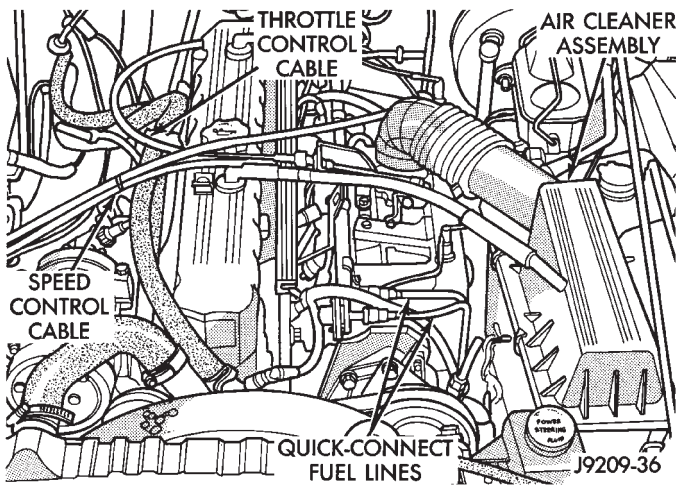

Fig. 18 Fuel Line Quick-Connect Couplings, Air Cleaner Assembly, Throttle & Speed Control Cables
- (4) Disconnect the wire connectors from the generator.
- (5) Disconnect the ignition coil and distributor wire connectors.
- (6) Disconnect the oil pressure sender wire connector.
- (7) Disconnect the wires at the starter motor solenoid and injection wire harness connector.
- (8) Perform the Fuel System Pressure Release procedure (refer to Group 14, Fuel System).
- (9) Disconnect the quick-connect fuel lines at the fuel rail and return line by squeezing the retaining tabs against the fuel tube (Fig. 18). Pull the fuel tube and retainer from the quick-connect fitting (refer to Group 14, Fuel System for the proper procedure).
- (10) Remove the fuel line bracket from the intake manifold.
- (11) Disconnect the engine ground strap.
- (12) Remove the air cleaner (Fig. 18).
- (13) Disconnect the vacuum purge hose at the fuel vapor canister tee.
- (14) Disconnect the idle speed actuator wire connector.
- (15) Disconnect the throttle cable and remove it from the bracket (Fig. 18).
- (16) Disconnect the throttle rod at the bellcrank.
- (17) Disconnect the speed control cable, if equipped (Fig. 18).